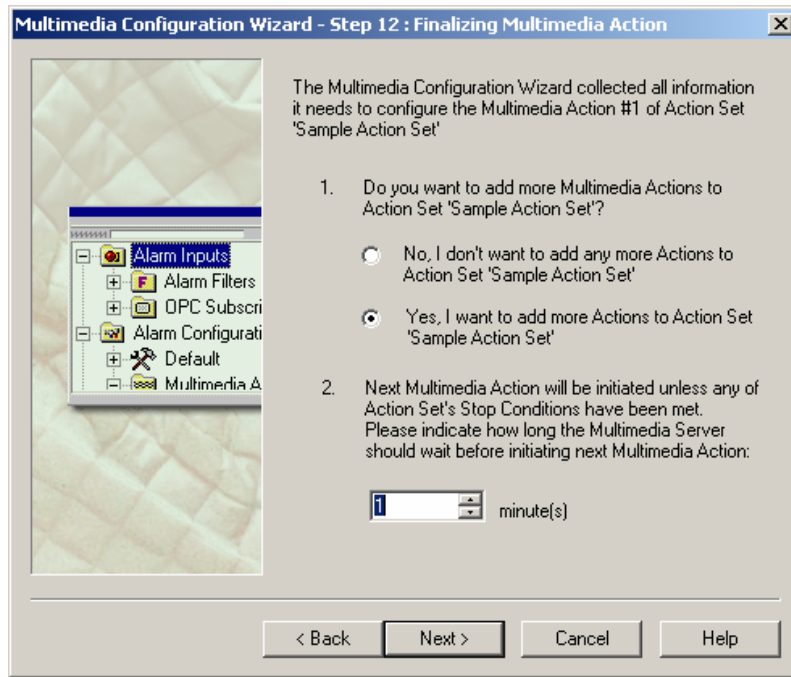

Figure 3.13. Step 12: Selecting Additional Actions for the Action Set
- Once the media template is configured, you have the option of selecting more multimedia actions for your action set, as shown in **Figure 3.13**. If you choose to add another multimedia action, specify a waiting time between the action you just configured and the action to be added. The Wizard will go back to Step 7, where the next multimedia agent can be selected. If you choose not to add another action set, the Wizard will proceed to Step 13.